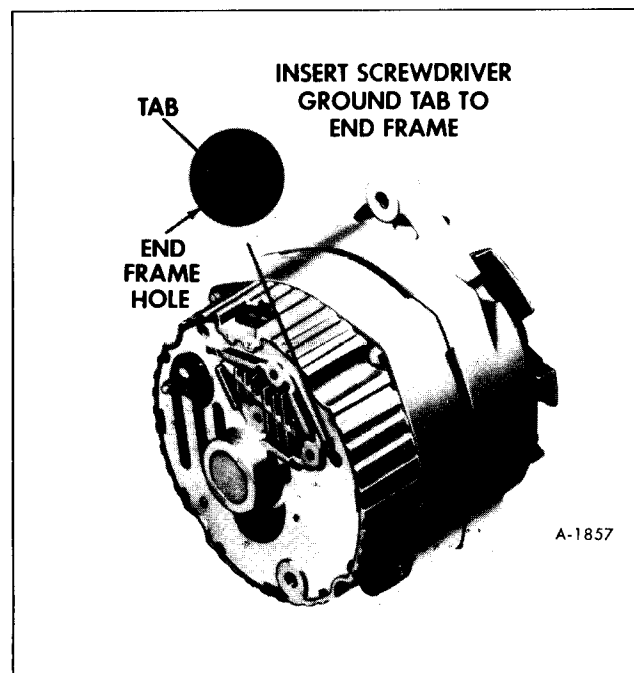

Figure 18—End View of Generator (Typical)
- b. If reading is less than 12.8 volts, ground field winding by inserting a screwdriver into the test hole in the end frame (figure 18).
7. If output is not within 10% of rated output, ground the generator field (figure 18)